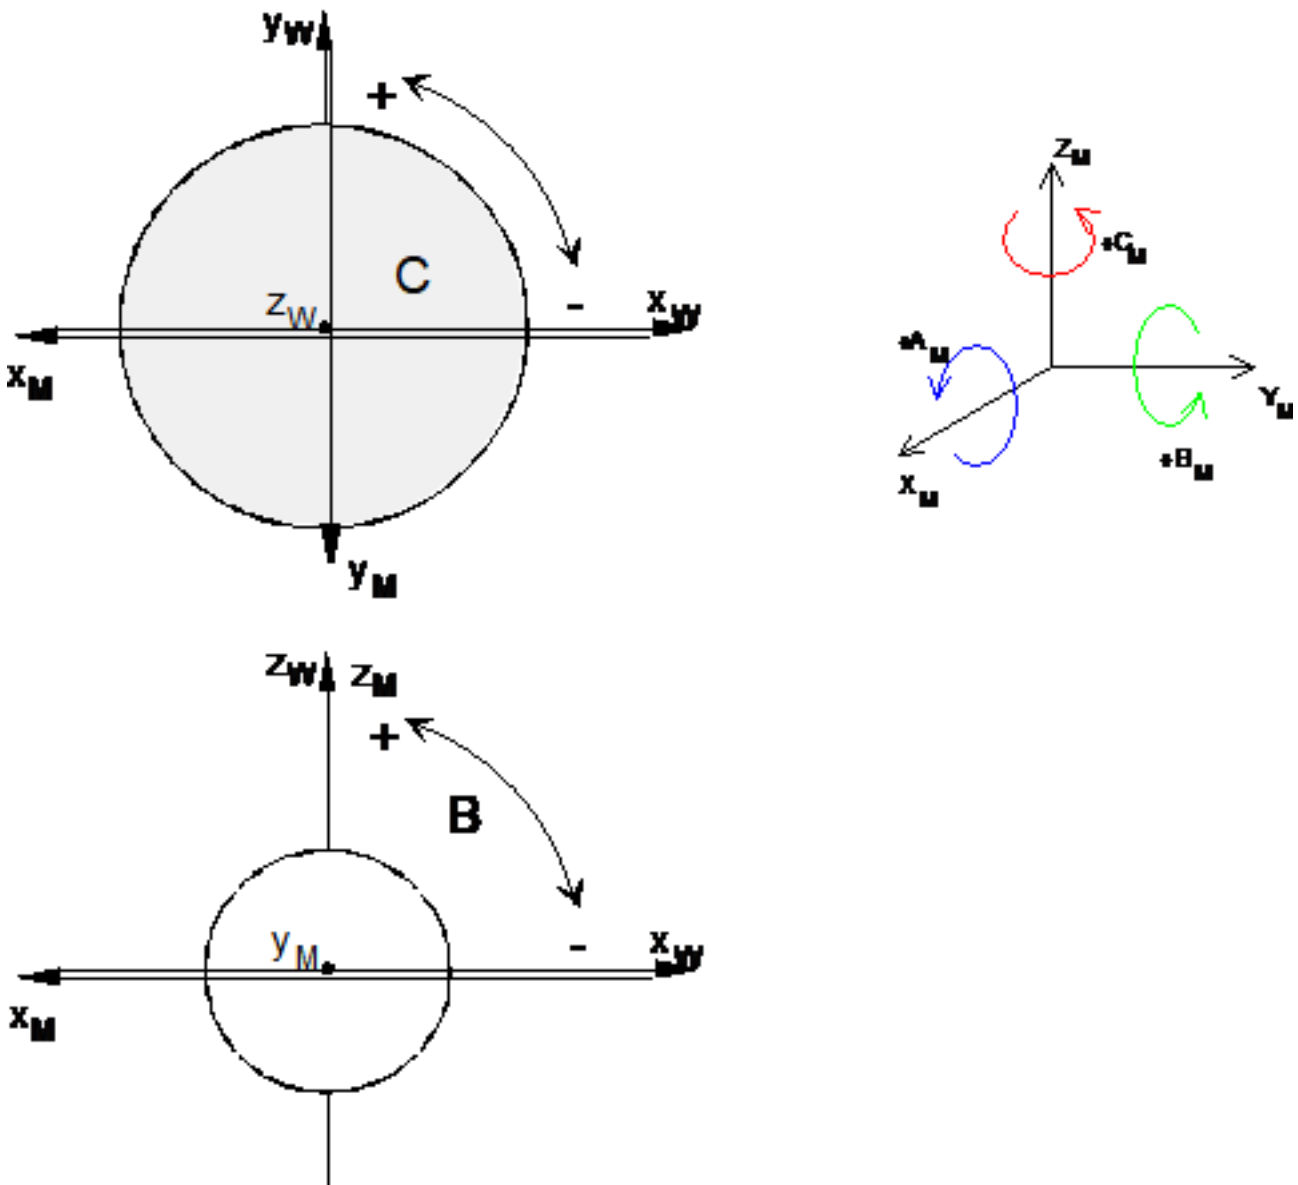

Fig. 2: Coordinate systems and motion directions
- Figure 2 shows the resulting positive motion direction of the translatory machine axes and the rotation direction of the rotatory machine axes. Note that the machine can also be moved correctly in the conventional 2.5 D mode. For example, the turntable with the workpiece moves to the left when X100 is programmed!